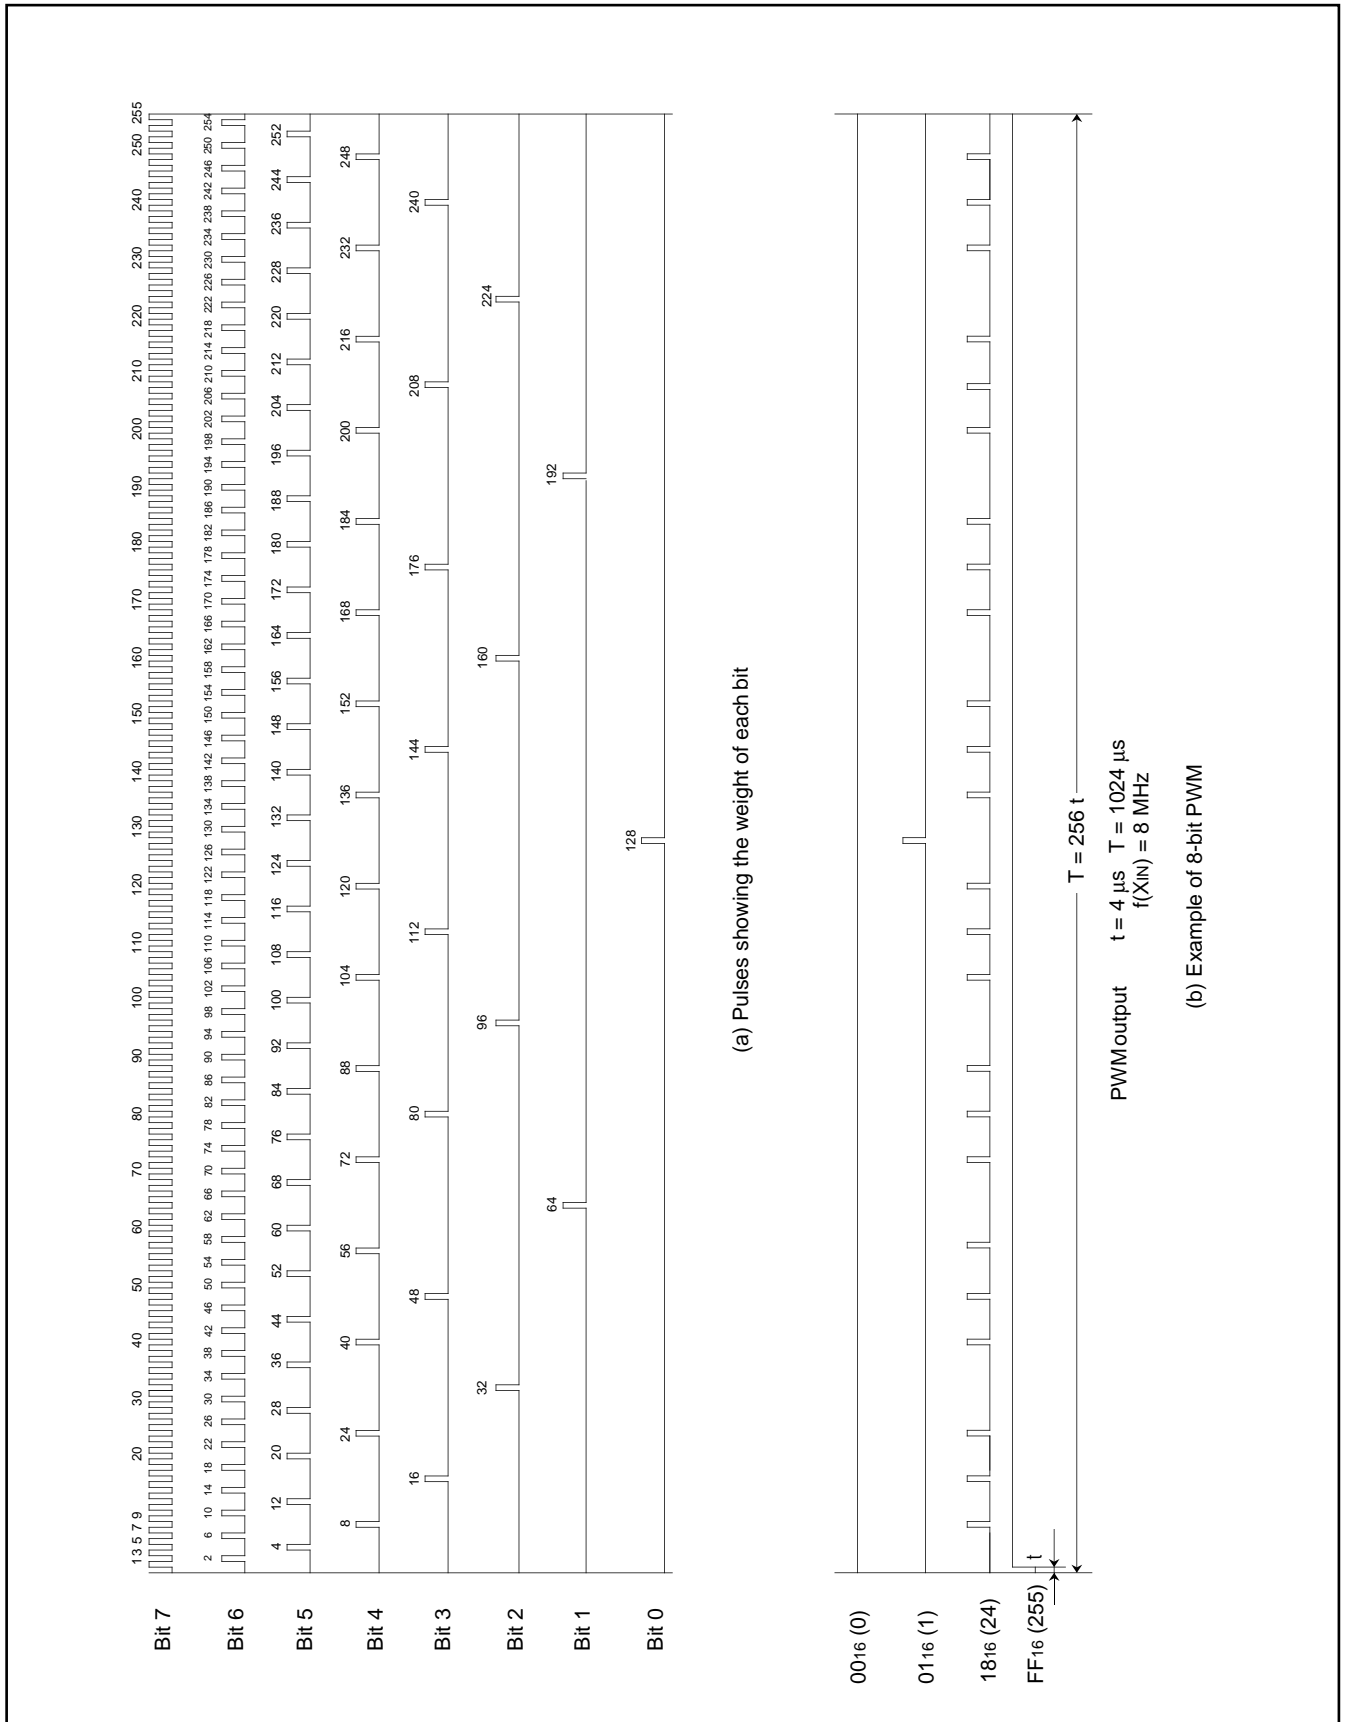

Fig. 13. 8-bit PWM timing
Figure 13 shows the 8-bit PWM timing. One cycle ( $T$ ) is composed of  $256 (2^8)$  segments. The 8 kinds of pulses relative to the weight of each bit (bits 0 to 7) are output inside the circuit during 1 cycle. Refer to Figure 13 (a). The 8-bit PWM outputs waveform which is the logical sum (OR) of pulses corresponding to the contents of bits 0 to 7 of the 8-bit PWM register. Several examples are shown in Figure 13 (b). 256 kinds of output (“H” level area: 0/256 to 255/256) are selected by changing the contents of the PWM register. A length of entirely “H” output cannot be output, i.e. 256/256.